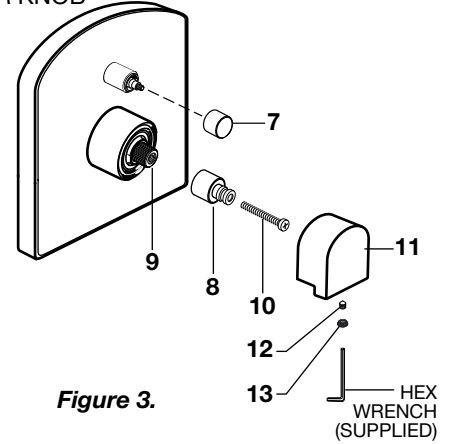

Figure 3.
- **Figure 3.** Thread DIVERTER KNOB (7) onto diverter stem.
- Install HANDLE ADAPTER (8) onto VALVE STEM (9) and secure with SCREW (10).
- Align LEVER HANDLE (11) so lever is facing down and tighten SET SCREW (12) with hex wrench to secure LEVER HANDLE (11).
- Install PLUG BUTTON (13).